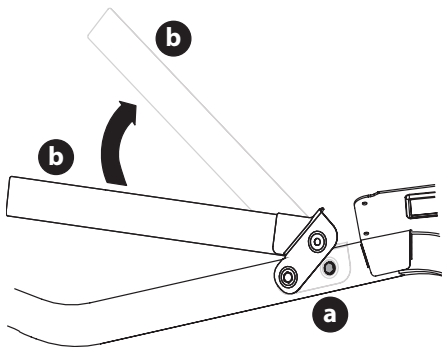

Fig. 3
1. Remove the two hex washer screws (a) partially installed on the frame (Fig. 3).
2. Rotate the upper hoop (b) into position (Fig. 3).